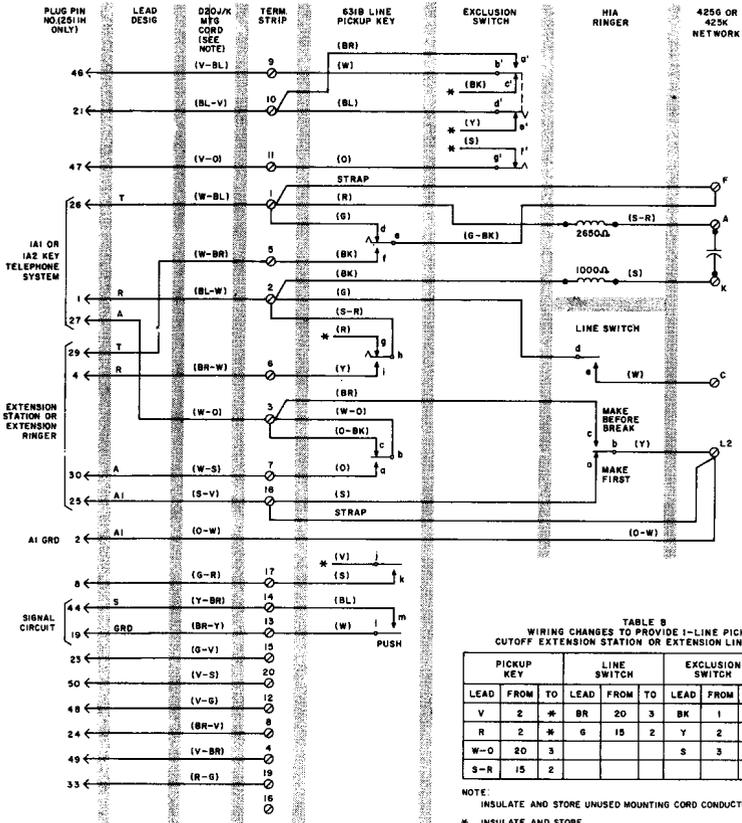

FIGURE 3. 2511F/H Telephone Set Connections, 1 Line Pickup, Cutoff Extension Station or Extension Line Ringer
- g. 2511F/H Telephone Set Connections, 1 Line Pickup, Cutoff Extension Station or Extension Line Ringer—Figure 3.